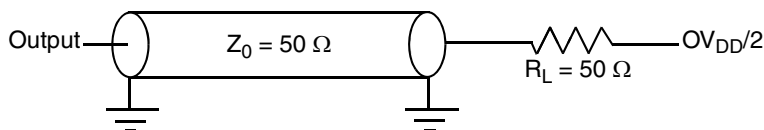

Figure 11. AC Test Load for the JTAG Interface
1. All outputs are measured from the midpoint voltage of the falling/rising edge of TCLK to the midpoint of the signal in question. The output timings are measured at the pins. All output timings assume a purely resistive 50- Ω load (see Figure 11). Time-of-flight delays must be added for trace lengths, vias, and connectors in the system.
Figure 11 provides the AC test load for TDO and the boundary-scan outputs of the MPC755.